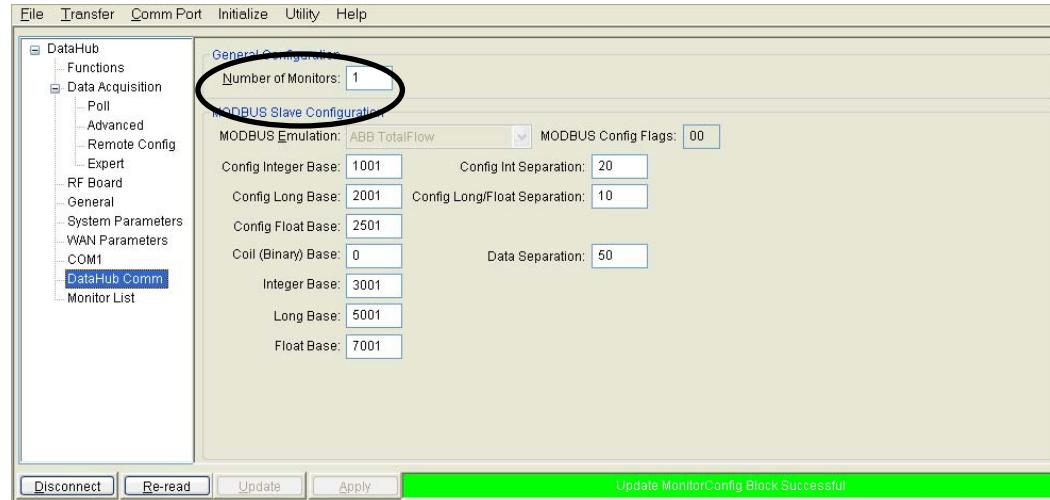

Fig. 7.4: Enter Number of Monitors
7.13 Click on **Apply** then **Update**. Screen similar to Fig. 7.4 should appear.